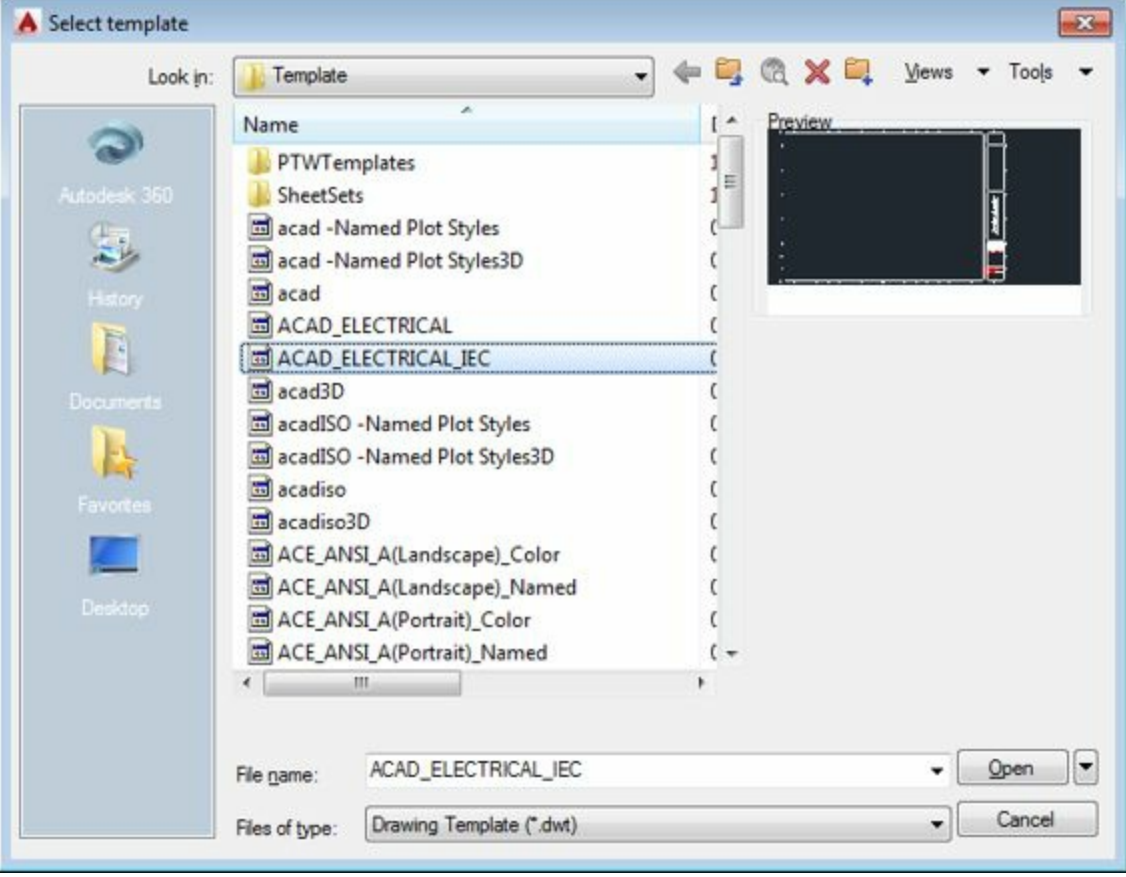

Figure-6. Select Template dialog box
- Click on the **Browse** button for the **Template** edit box and select the **ACAD ELECTRICAL IEC** template from the dialog box displayed; refer to Figure-6.